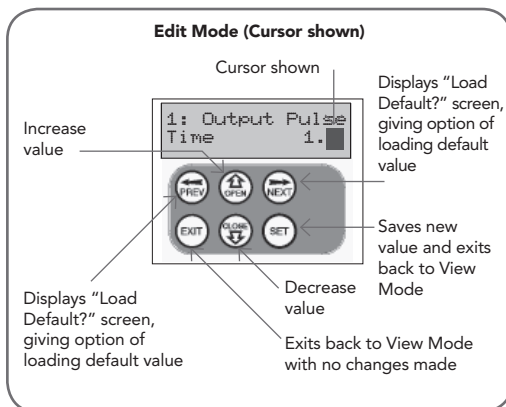

fig 25
5. Press UP/DOWN to change the parameter setting (Fig. 25). Holding the button down causes the parameter's value to change rapidly. The longer the button is held, the faster the value changes.